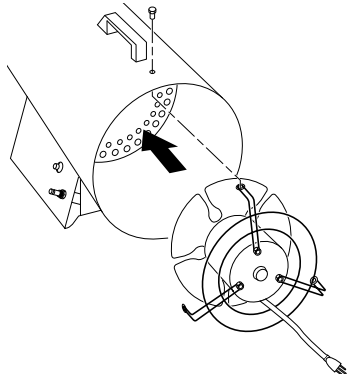

Figure 13 - Replacing Motor and Fan Guard into Heater
- Place motor and fan guard into rear of heater shell. Make sure power cord is properly located (See Figure 13).